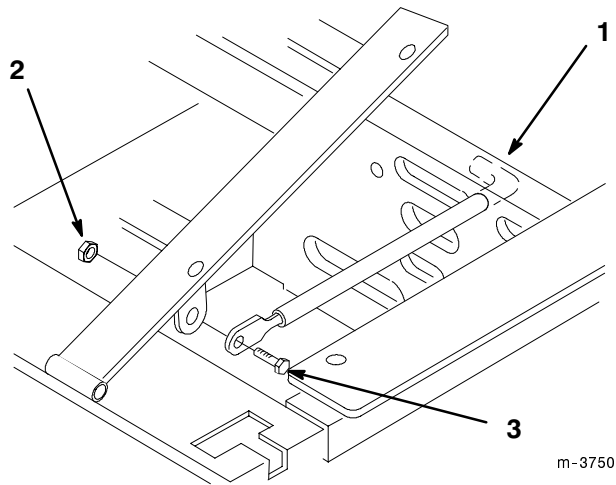

Figure 3
1. Tilt seat up. Remove 5/16" (8mm) locknut from bolt attaching seat retaining rod to seat frame (Fig. 3).
2. Remove retaining rod from seat and insert the "L" shaped end of the rod into the hole directly above the left-side hydraulic pump (Fig. 3).
- Place the seat retaining rod to the outside of the mounting tab of the seat frame and secure with 5/16-18 x 1" (26 mm) bolt and 5/16" (8 mm) locknut (Fig. 3).